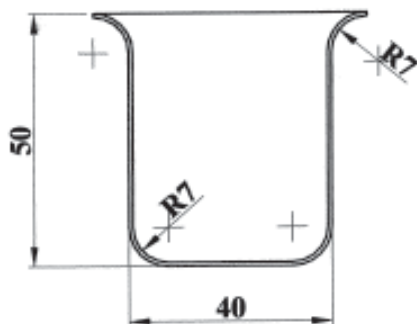

Fig: 2
3. Design a drawing die for the shell shown in fig. 2 **16**